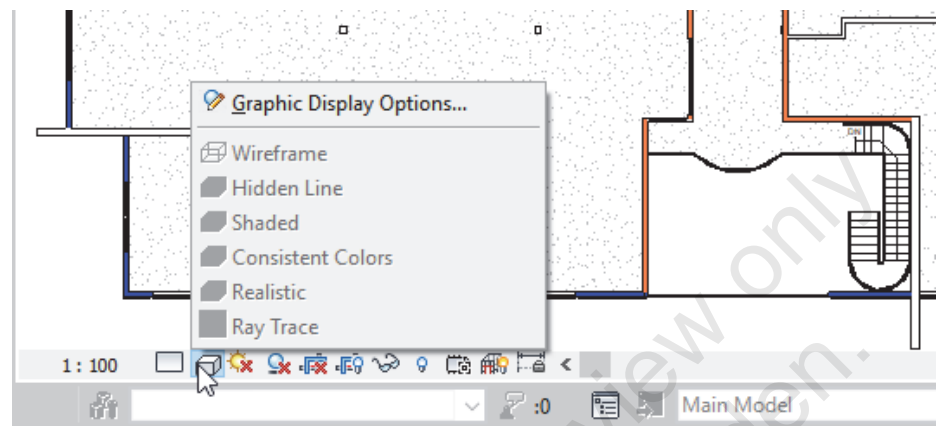

Figure 1–148
4. Review the View Control Bar options. Note that you cannot make any changes to the view controls of this view, as shown in Figure 1–148.